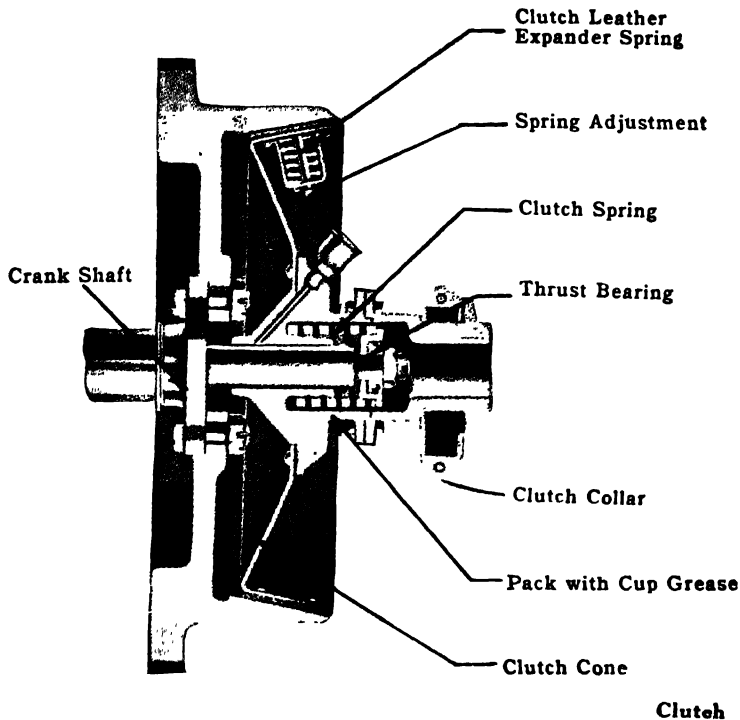

FIG. 39.—Cone Clutch.
1. Cone Clutches (Fig. 39).
The clutch shown in Fig. 39 is of the leather-faced cone type, with six compensating springs under the leather for easy engagement. High-